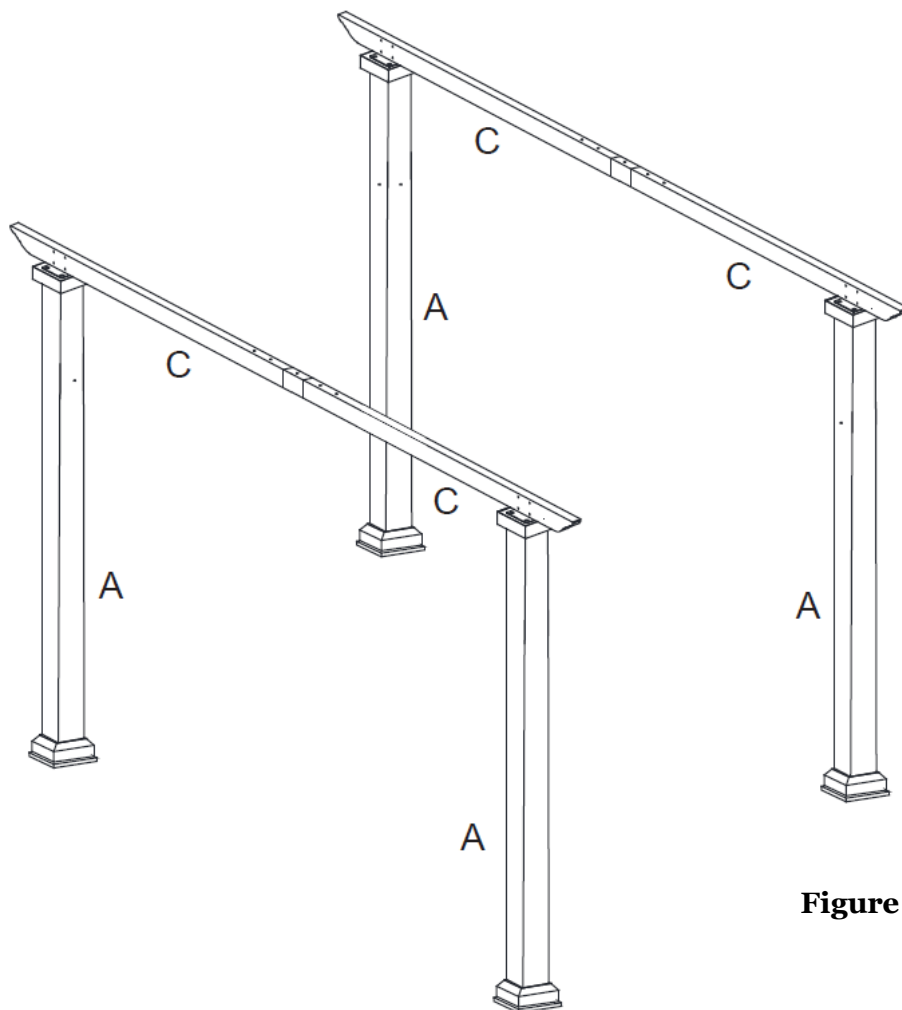

Figure 3-2
Step 3B: Repeat for opposite side. **Tighten Bolts.** See Figure 3-2.